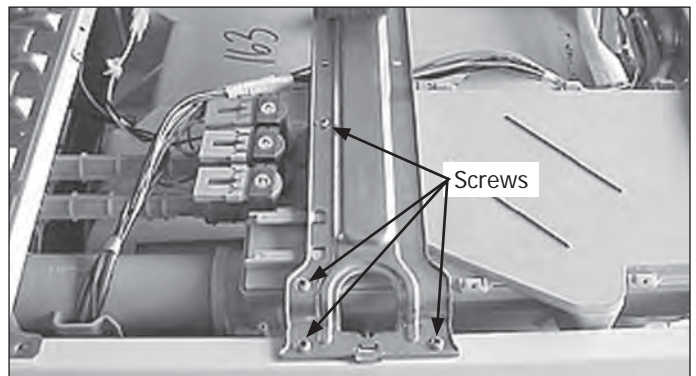

Figure 4-61.
3. Remove the (4) screws, two on each end, and the (2) screws holding the detergent dispenser housing to the brace. (See Figure 4-61)